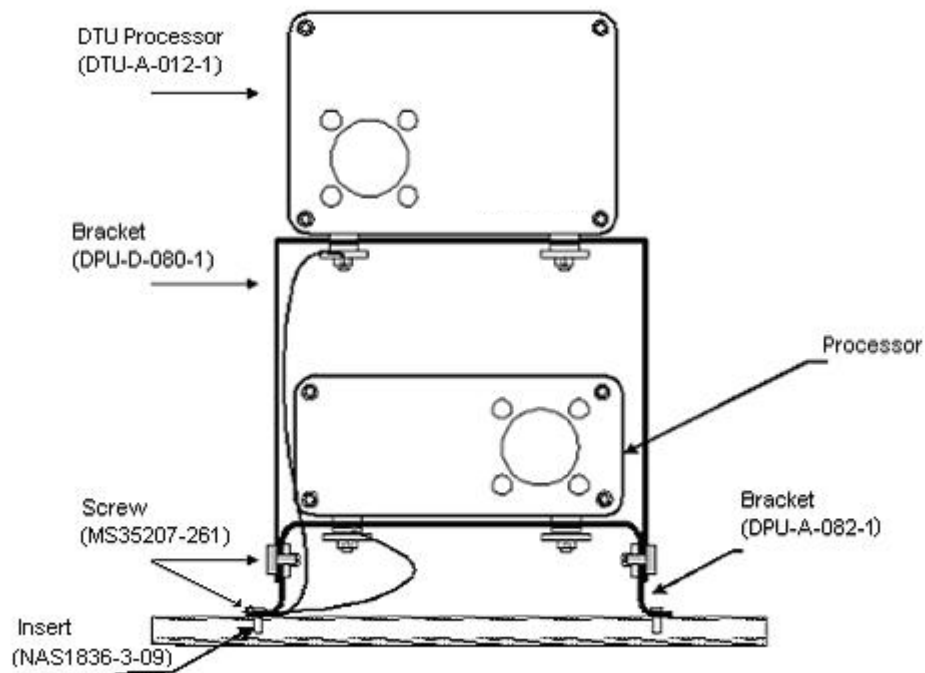
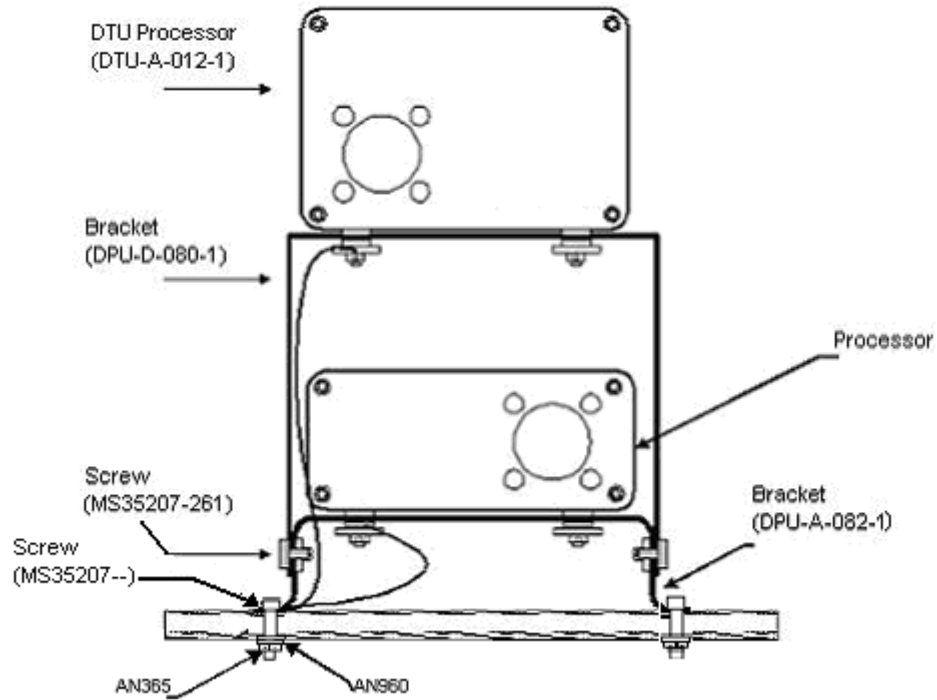

Figure B- 3: "Double Stack" Mounting Configuration – Honeycomb/Sandwich Panel
Figure B- 4: "Double Stack" Mounting Configuration – Metal Skin
1. If the current location of the Gen III processor has sufficient space the DTU can be mounted in the “Double stack” configuration. Refer to Figure B- 3 or Figure B- 4.
- 070 Assemble the "Double Stack" mounting bracket and install the Gen III processor and the DTU processor. Refer to applicable Figure B- 3 or Figure B- 4
- 020 Attach the DTU and the "Double Stack" mounting bracket to the Gen III processor bracket using the required hardware. Refer to applicable Figure B- 3 or Figure B- 4